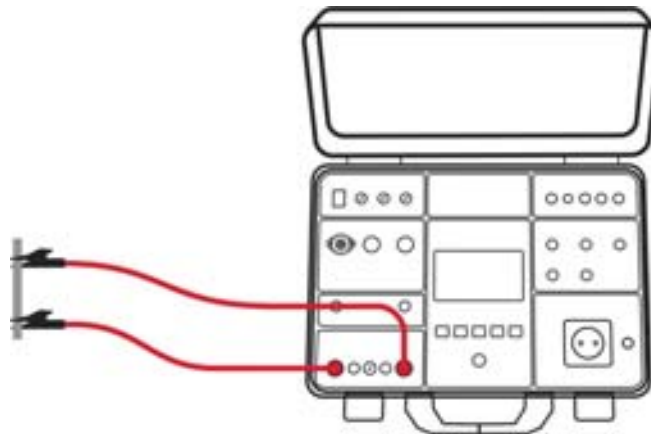

Fig. 26 : Test leads calibration
3. Press the **CAL** touch-screen key (8), the message “SHORTCIRCUIT TEST LEADS AND PRESS START TO CALIBRATE” will appear
4. Connect test leads according to the figure below, make sure two crocodiles are connected as close as possible to each other to a piece of unisolated wire (see Fig. 26)